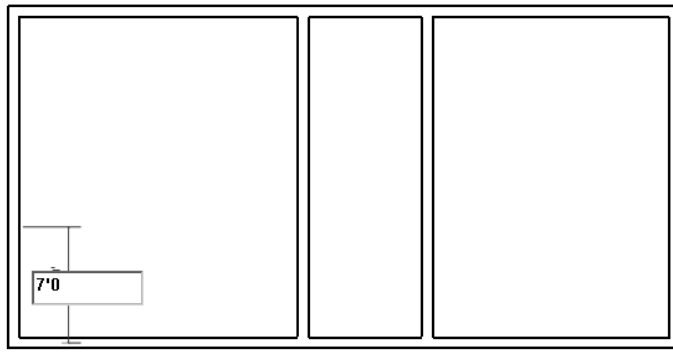

Figure 3-56 Specifying the distance for sketching the third internal wall
3. Move the cursor to the lower left corner and then move it vertically upward. When the temporary dimension appears, enter **7'0"** and then press ENTER to specify the starting point of the third interior wall, as shown in Figure 3-56.